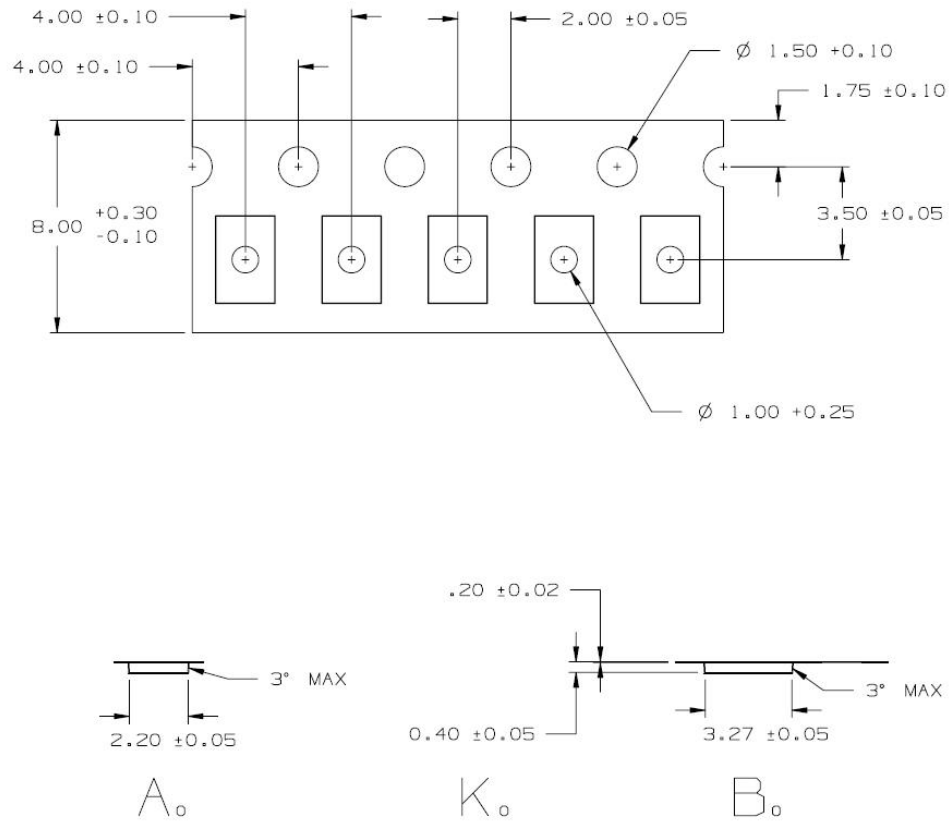

Figure 12. EA2M-SUD Tape & Reel
12. EA2M–SUD8A1G: Die in Tape & Reel with die thickness = 8 mil ± 0.5 mil. These chips are contained in a Tape and Reel. The mechanical specifications of the trays are shown in Figure 12. Dimensions are in mm.